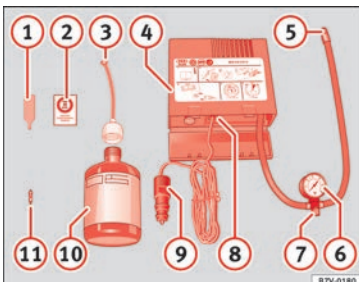

Fig. 62 Standard representation: contents of the anti-puncture kit.
- Unscrew the tyre valve cap and insert. Use the »» Fig. 62  tool to remove the insert. Place it on a clean surface.
»» Fig. 62 .
- Screw the inflator tube »» Fig. 62  into the sealant bottle. The bottle's seal will break automatically.
»» Fig. 62  and screw the open end of the tube into the tyre valve.
- Place the insert back into the tyre valve using the tool »» Fig. 62 .
»» Fig. 62  into the tyre valve.
- Insert the connector »» Fig. 62  into the vehicle's 12-volt socket »»  page 174.
- Turn the air compressor on with the ON/OFF switch »» Fig. 62 .